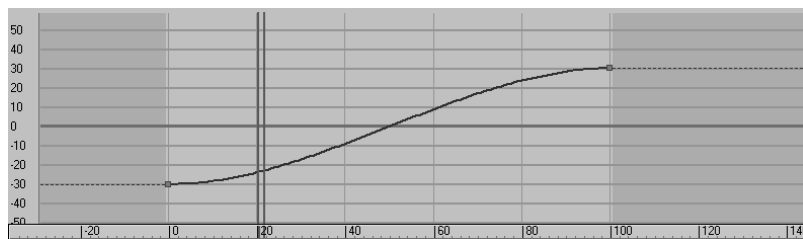

Figure 8.24
5. Select the Parameter Curves Out-of-Range Types button () and select Constant. This will remove the *Loop* from the X Position Track but won't affect the Z Position track for the ball's bounce (Figure 8.24). Press N to deactivate Auto Key. Play the animation.
6. There is still a little problem. Watch the horizontal movement. The ball is slow at the beginning, speeds up in the middle, and then slows again at the end. It eases in and eases out, as you can see in the curve in Figure 8.24. This is caused by the default tangent, which automatically adds a slowdown as the object goes in and out of the keyframe. In the Curve Editor, select both keys for the X Position and click on the Linear Tangent () to create a straight line of movement so there is no speed change in the ball's movement left to right. Press N to deactivate the Auto Key. Figure 8.25 shows the proper curve.